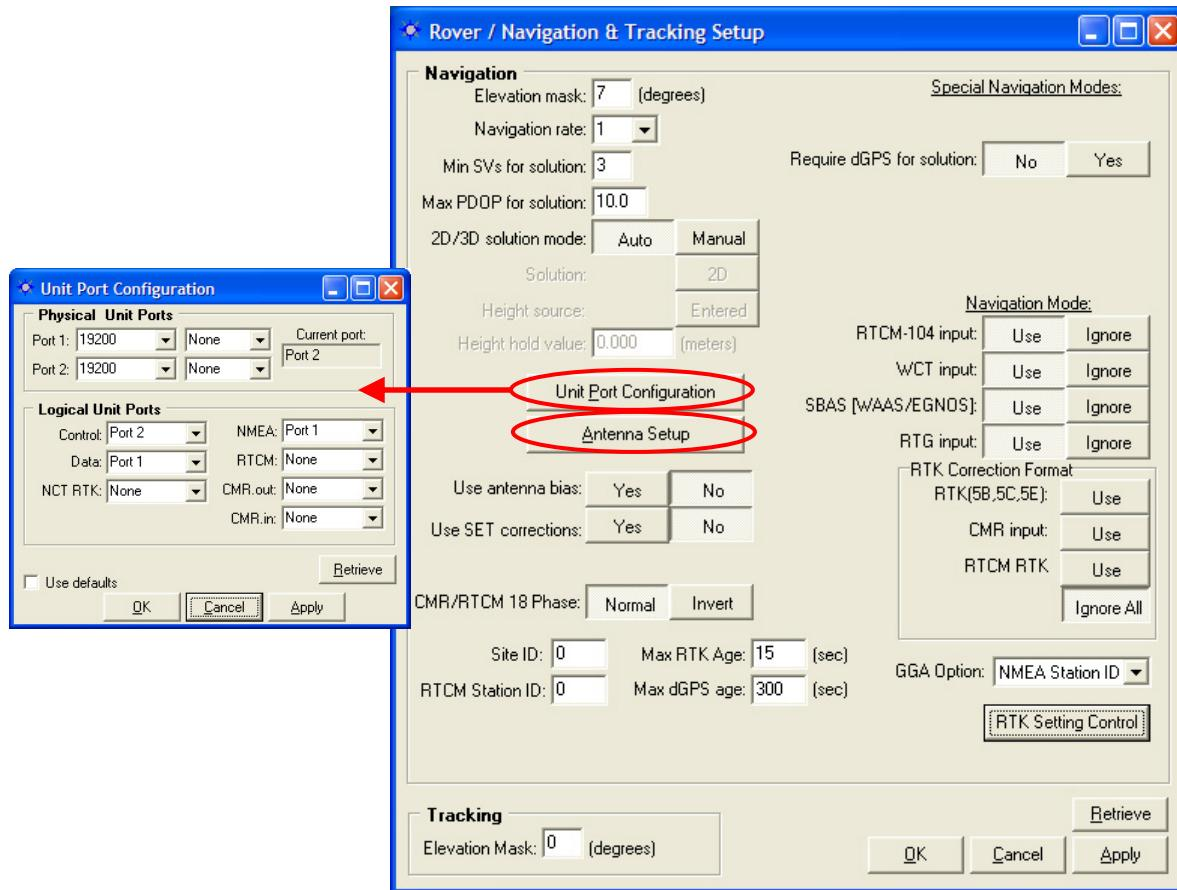

Figure 20: Rover / Navigation & Tracking Setup Window
- ✓ **Unit Port Configuration Button:** Click this button to configure the physical and logical unit ports. The *Unit Port Configuration* window opens (see Figure 20). Refer to the section above, *Configure Unit Ports*, for more information.